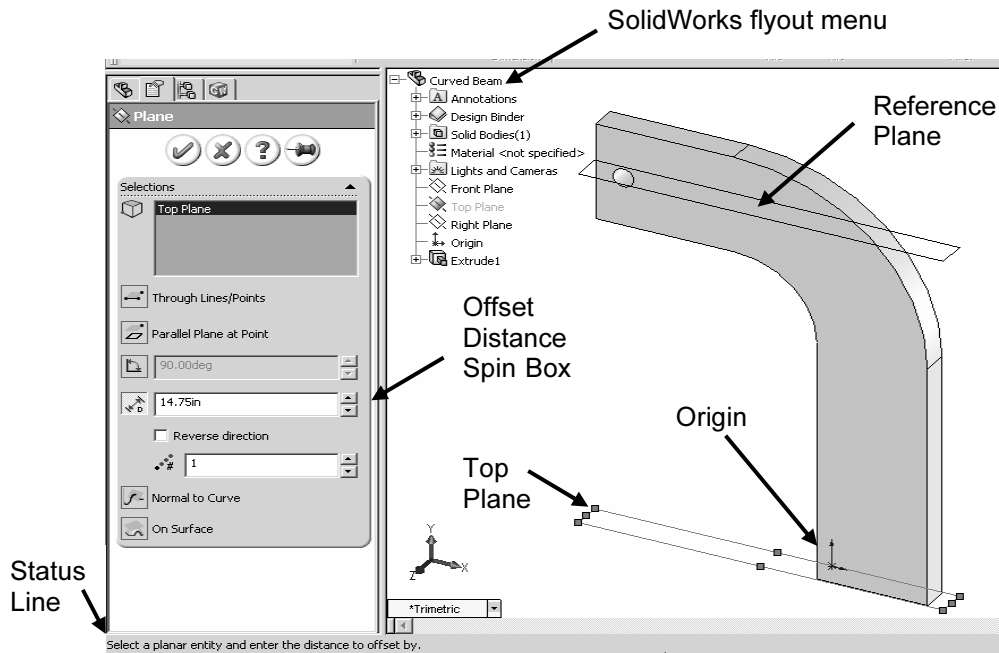

Figure 8 – The **Plane** property manager and various selections made to create a reference plane that passes through the bottom of the hole.
1. From the main menu, select **Insert**. Then, from succeeding pull-down menus make the following selections: **Reference Geometry** followed by **Plane...** The **Plane** property manager opens *and* the SolidWorks “flyout” menu also appears at the upper-left corner of the graphics screen as shown (expanded) in Fig. 8.
2. On the graphics screen it may be necessary to click the “+” sign adjacent to the SolidWorks **Curved Beam** icon to display the complete “flyout” menu illustrated in Fig. 8. Continue to refer to Fig. 8 in steps 3 through 5 below.
4. From the SolidWorks flyout menu, select **Top Plane**. For users who elected to open the **Curved Beam** part file available at the textbook web site, the top plane passes through the origin, which is located on the bottom of the model1 in Fig. 8.